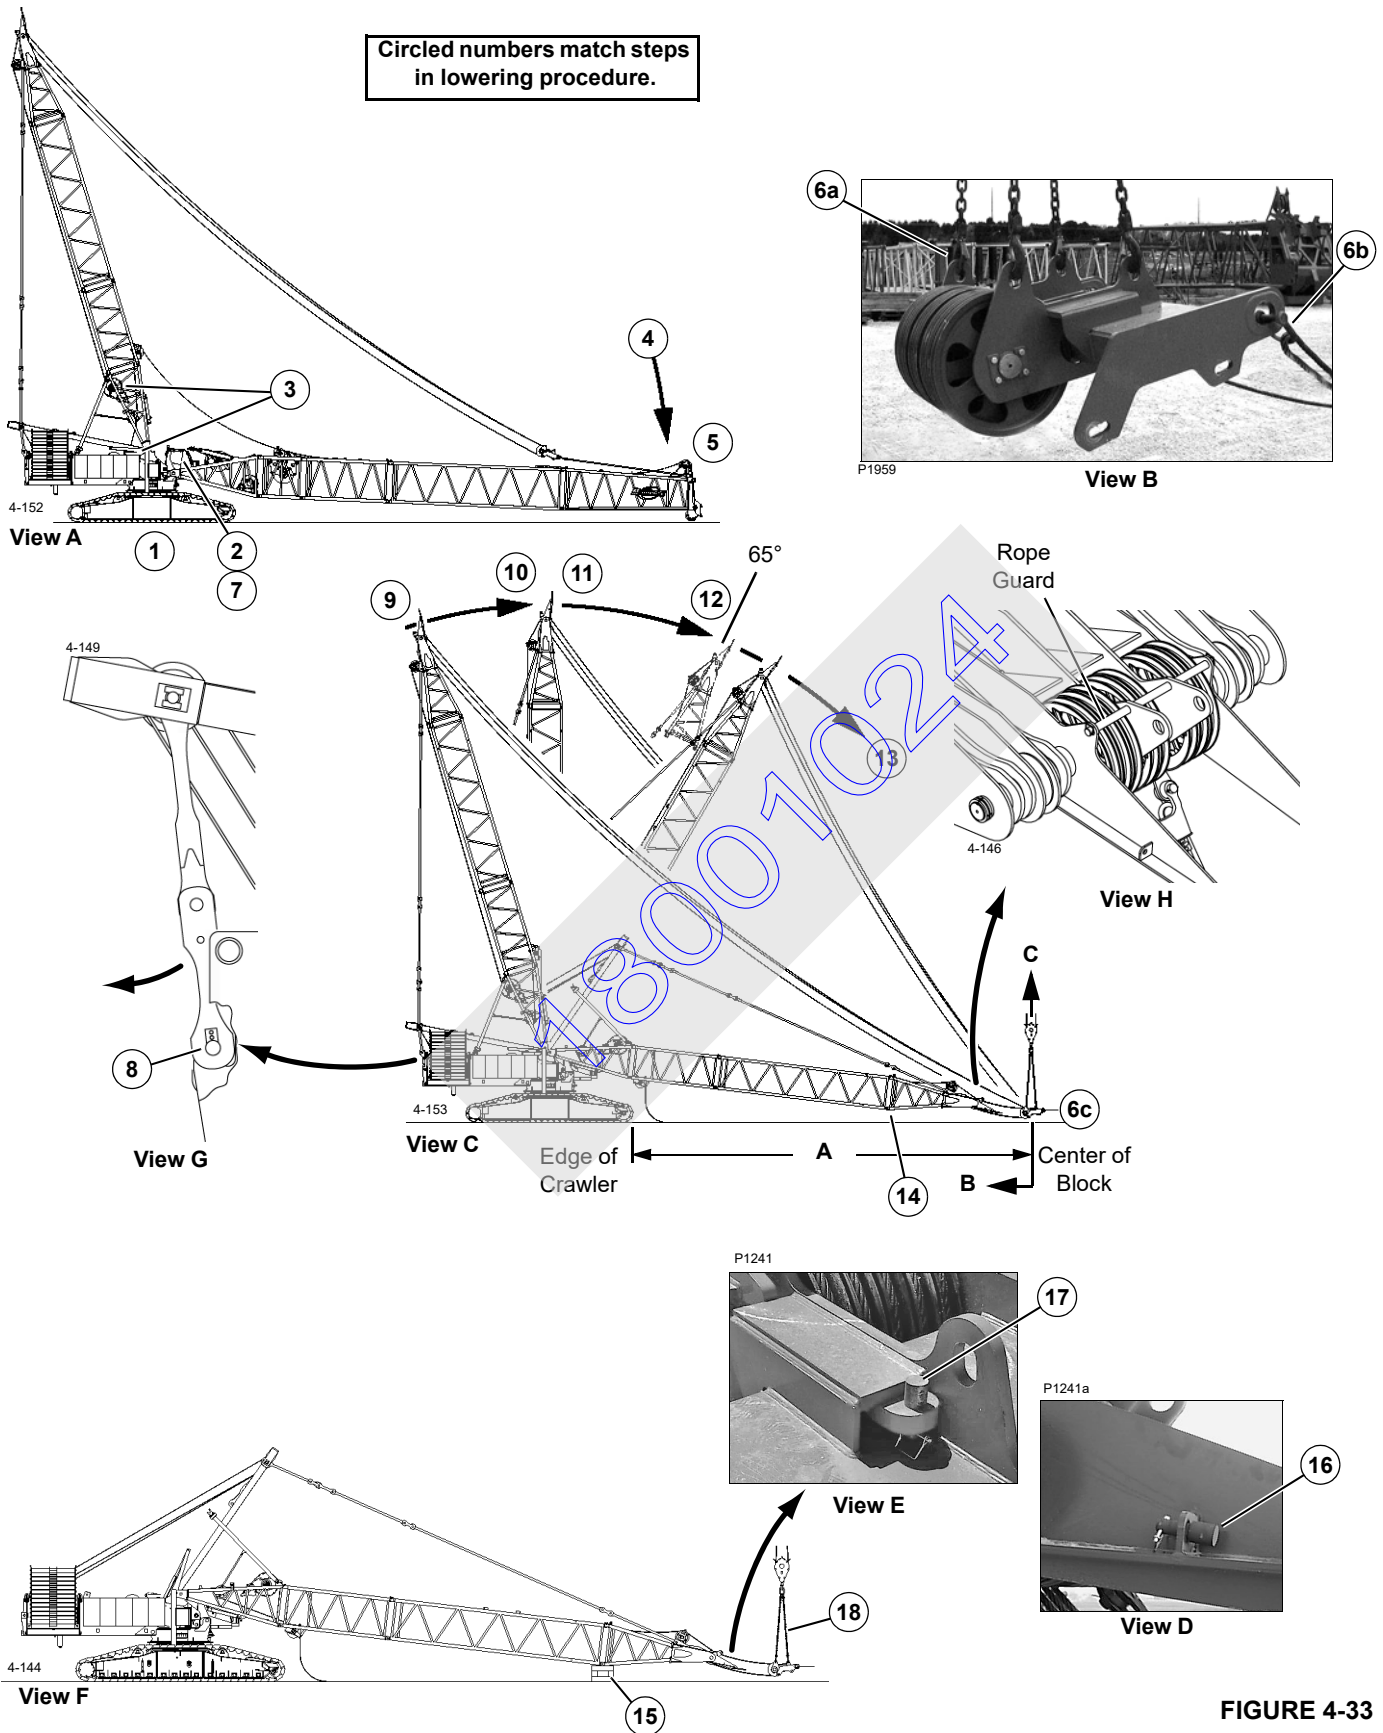

FIGURE 4-33
If an assist crane is used as the holdback, the assist crane must provide the holdback forces given in Table 4-4. The letters in the table correspond to the letters in View C, Figure 4-33.
Circled numbers in Figure 4-33 match the following steps.
- If not already done, lift boom hoist equalizer (11, View A) into position on forks at end of mast top (13) with assist crane and install retaining pins (Figure 4-33, View E).
- Attach slings (12) from assist crane to lifting lugs on mast top (13, View A).
- Remove pins (17, View D) between mast top (13) and insert (14).